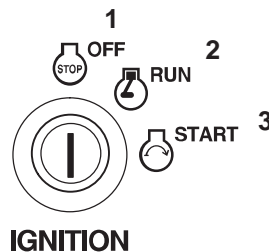

Figure 16
- Turn the ignition key to off (Fig. 16).
- Let the engine idle for 60 seconds (Fig. 16).